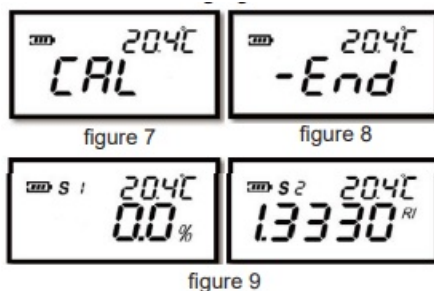

figure 9
- At this point, the display will change back to the default screen showing the active scale and instrument temperature (figure 9). If the instrument does not read distilled water with the values shown below then clean the prism and recalibrate with fresh distilled water:
- Repeatedly press and release the SCALE key to toggle through all available scales. The display will indicate which scale position is currently active- S01, S02, S03,... (figure 9).